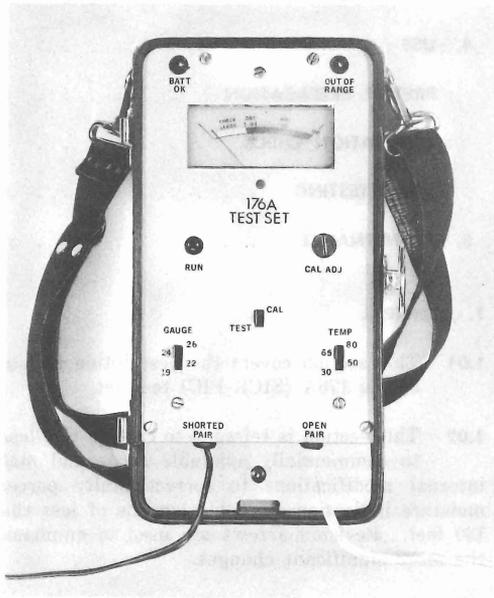

Fig. 2—Front Panel
3.04 The following controls are located on the front panel (Fig. 2):